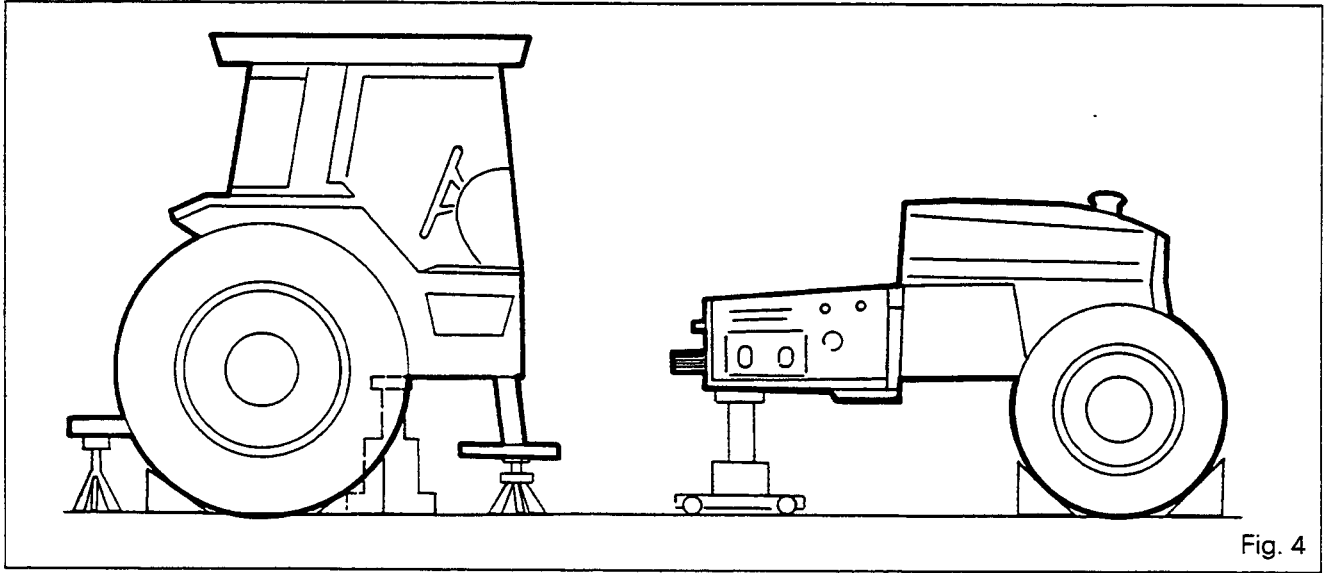

Fig. 4
- 21. Separate the gearbox from the rear axle (Fig. 4).